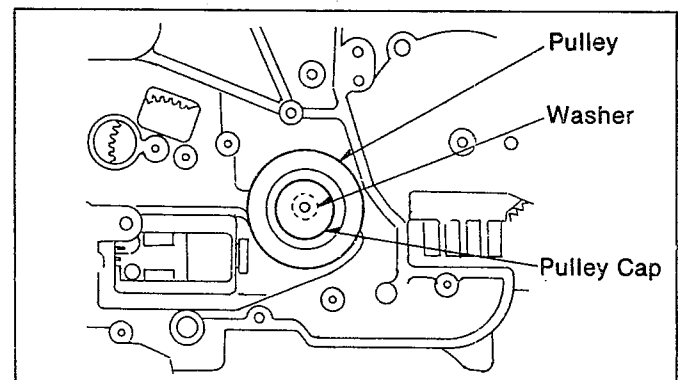

Fig. M29
- (2). Insert the Washer and the pulley from reverse side of chassis, after that install the pulley cap as shown in Fig.M29.